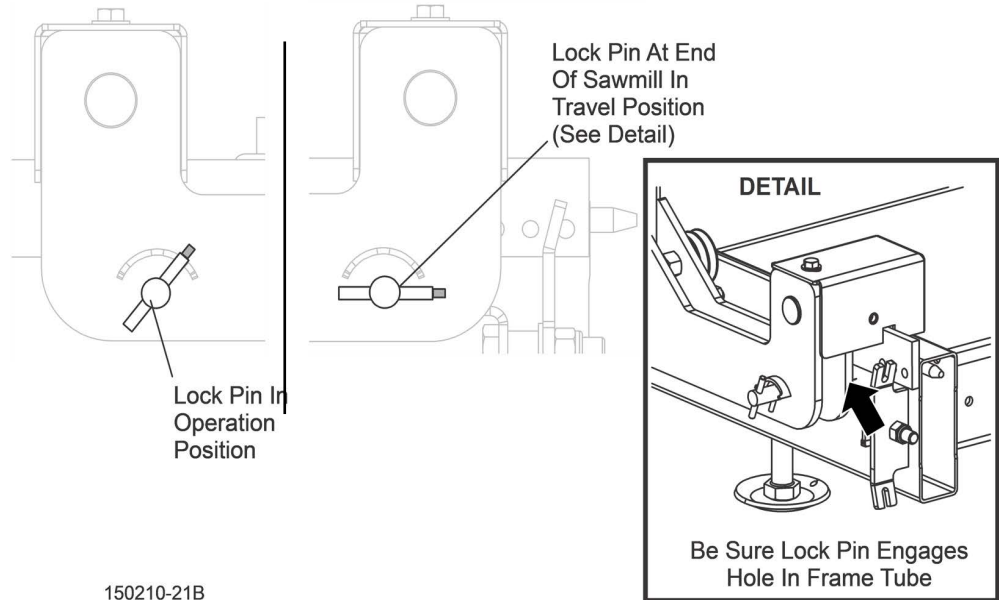

FIG. 6-9
**CAUTION!** Be sure the lock pin engages the hole in the bed frame to secure the saw carriage in place. The other lock pin remains in the operation position. See FIG. 6-9.